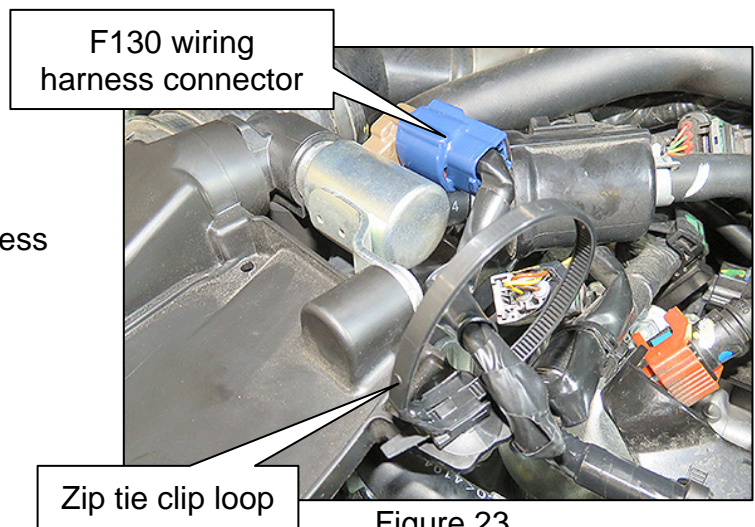

Figure 23
23. Loop the zip tie clip around the F130 wiring harness (Figure 23).